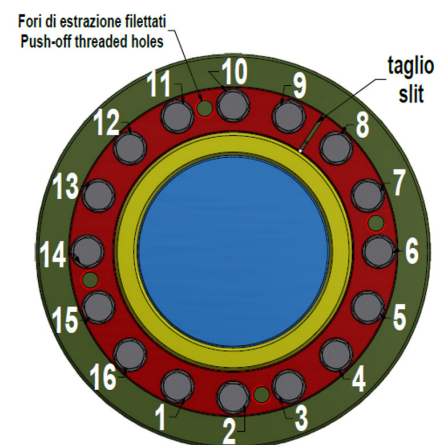

Fig. 4
4. Use a torque wrench set approx. 5% higher than specified tightening torque (Ma). Progressively tighten the screws in either a clockwise or counterclockwise sequence, using approx. ¼ turns for several passes until ¼ turns can no longer be achieved (fig. 4).